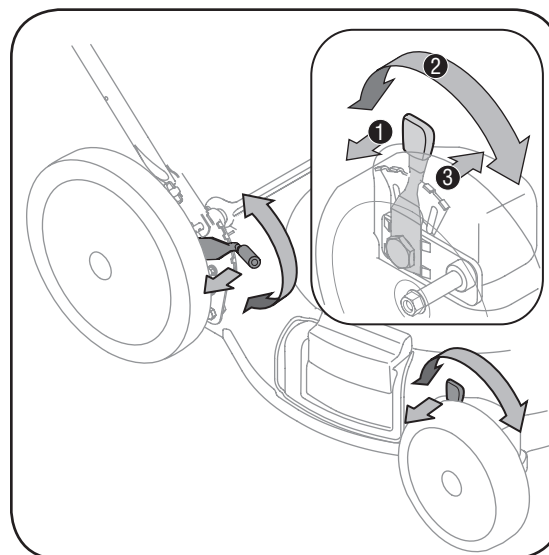

Figure 3-8: Use levers to adjust cutting height.
2. Move it to any one of the positions for desired cutting height, Figure 3-8. Make sure that each wheel is positioned at the same height.